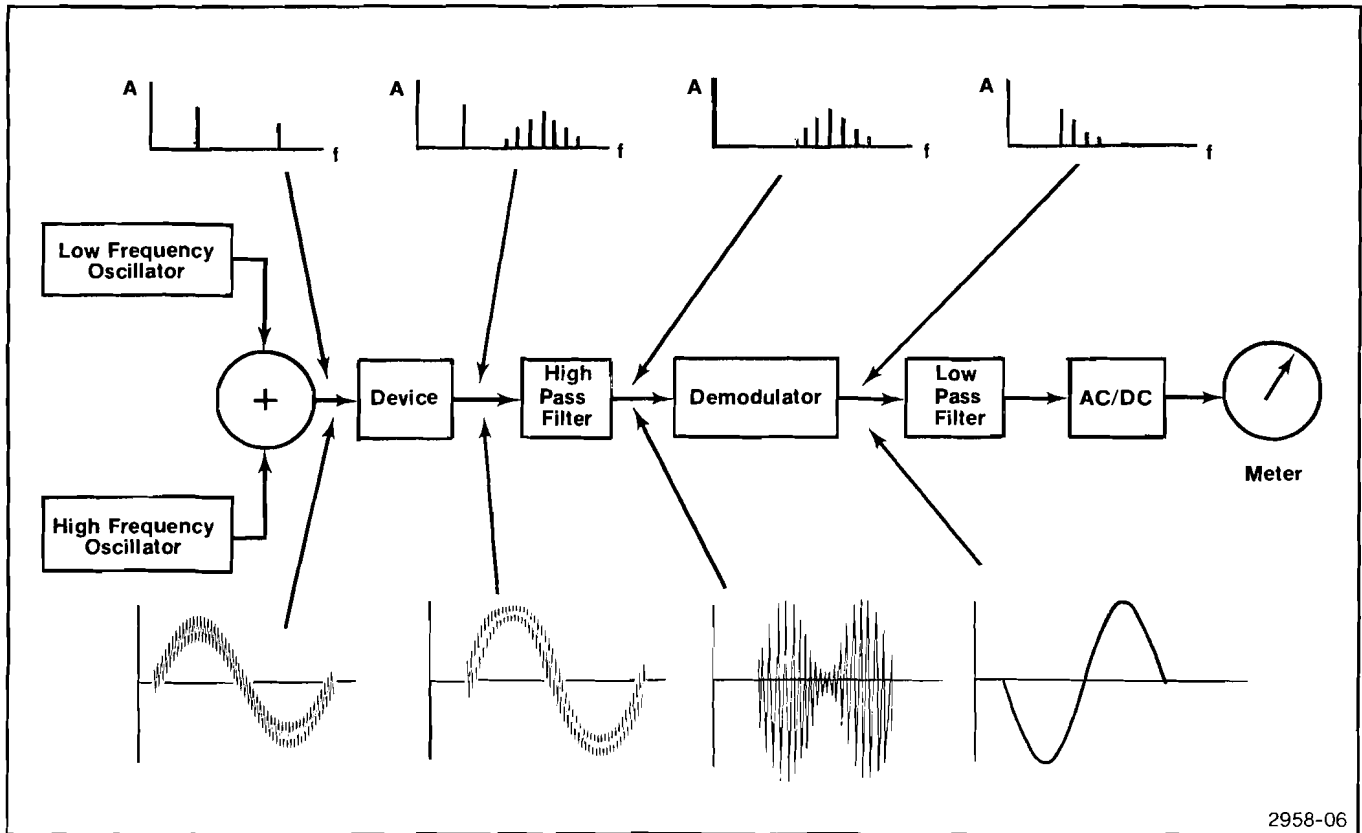

Fig. 2-7. Block diagram of basic IM analyzer.
To measure intermodulation distortion (IM), according to SMPTE and DIN standards, the device under test is excited with a low frequency and high frequency signal simultaneously (Fig. 2-7). The output signal is high-pass filtered to remove the low frequency component. The high frequency tone is then demodulated, as an AM radio signal. The demodulator output is low-pass filtered to